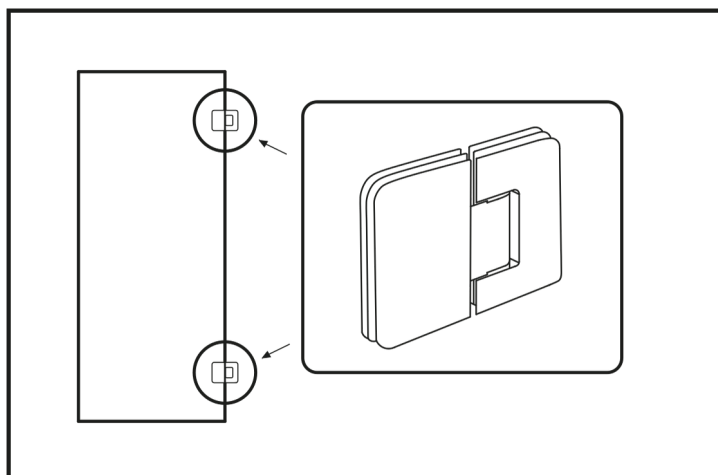

Figure 11
27. Install the hinges to the glass using the screws provided. (Figure 11)